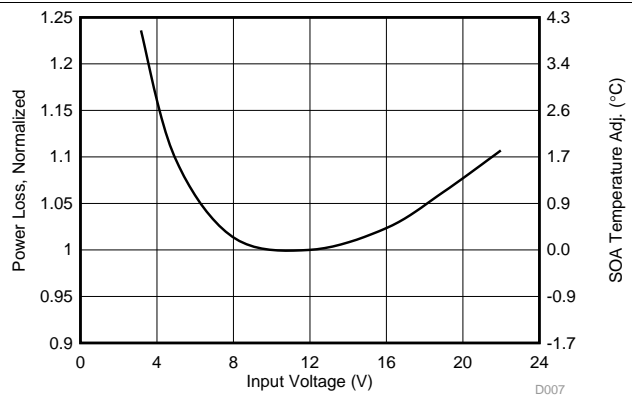

Figure 6. Normalized Power Loss vs Input Voltage
- Normalized power loss for input voltage  $\approx 1.01$  (Figure 6)
- SOA adjustment for input voltage  $\approx 0.14^\circ\text{C}$  (Figure 6)